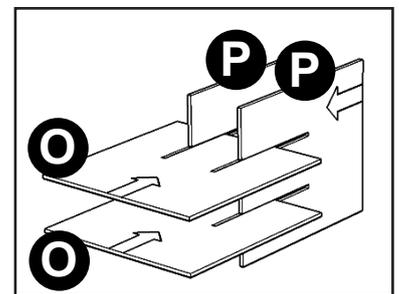

Figure 6
Assemble Wine Grids (O) and Wine Grids (P). (See Figure 6)